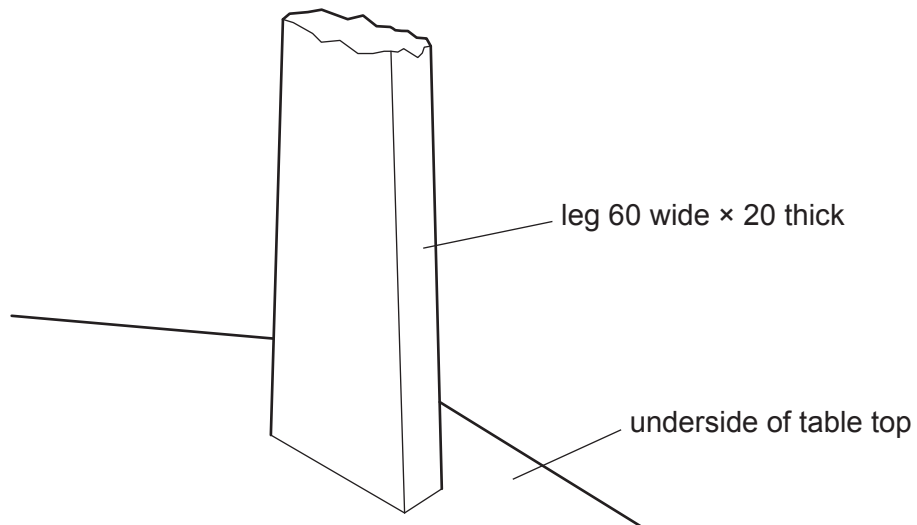

Fig. 13.4
- (e) Fig. 13.4 shows one leg in position to be hinged to the underside of the table top.
- (i) Add sketches and notes to Fig. 13.4 to show a suitable hinge that could be used to join the leg to the table top. [3]